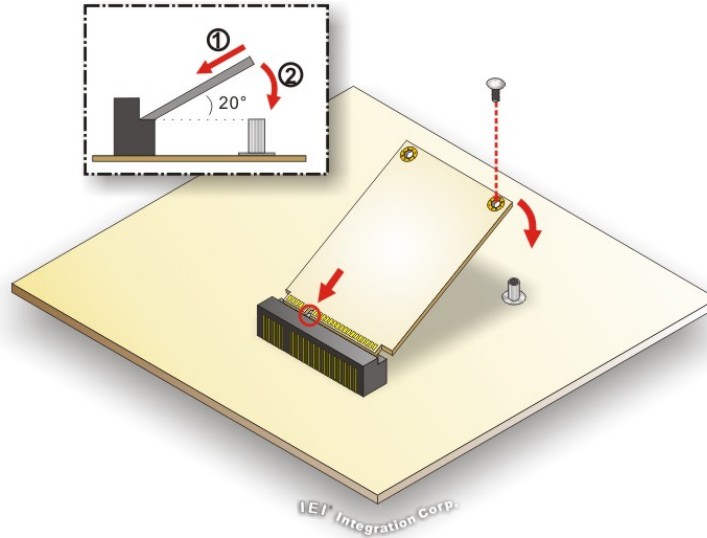

Figure 3-5: mSATA Module Installation
- Step 3:** Connect the SATA DOM with the SATA connector on the motherboard to install it. Either high-profile or low-profile SATA DOM can be installed into the PPC-F06B-BT. **Figure 3-5** shows that the system is installed with a high-profile SATA DOM.
Step 4: Secure the mSATA module with the retention screw. Push the other end of the mSATA module down and secure the module with the previously removed retention screw (**Figure 3-5**).